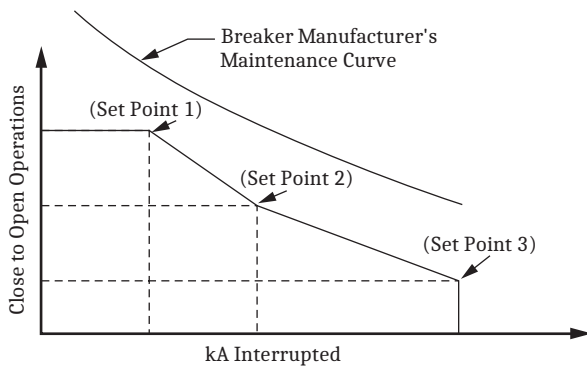

Figure 27 Breaker Contact Wear Curve and Settings
- Every time the breaker trips, the relay integrates interrupted current. When the result of this integration exceeds the threshold set by the breaker wear curve (Figure 27), the relay can alarm via an output contact or the optional front-panel display. With this information, you can schedule breaker maintenance in a timely, economical fashion.